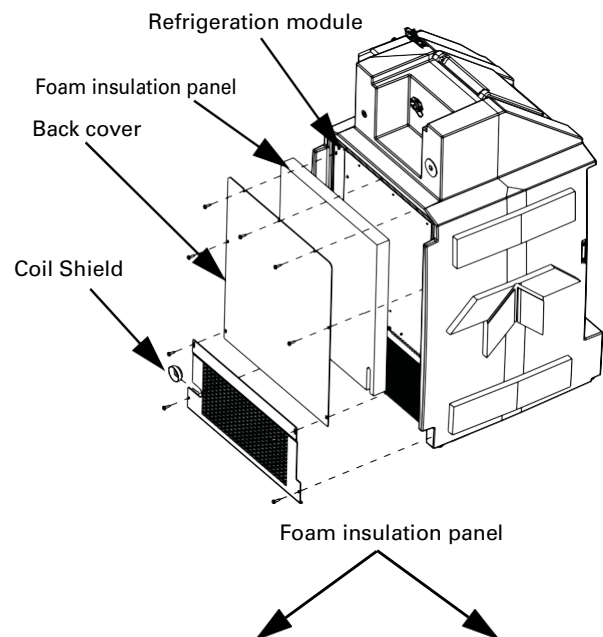

Figure 1: Open rear compartment
2. Remove the coil shield, back cover, and insulation panel (Figure 1). When removing the foam insulation panel, take precautions not to damage the foam around the tubing (see inset, Figure 1).
21. Reinstall the coil shield, back cover, and insulation panel (Figure 1). When installing the foam insulation panel, take precautions not to damage the foam around the tubing (see inset, Figure 1).